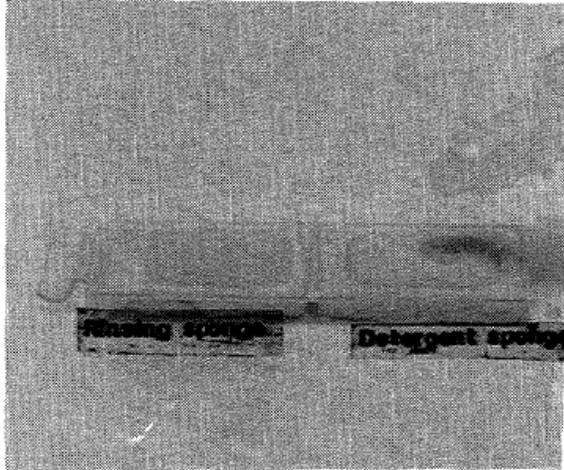

Figure 21. Rinse and Detergent sponges
Step 3. Remove the rinsing sponge (the one closest to the tray handle) (Figure 21).